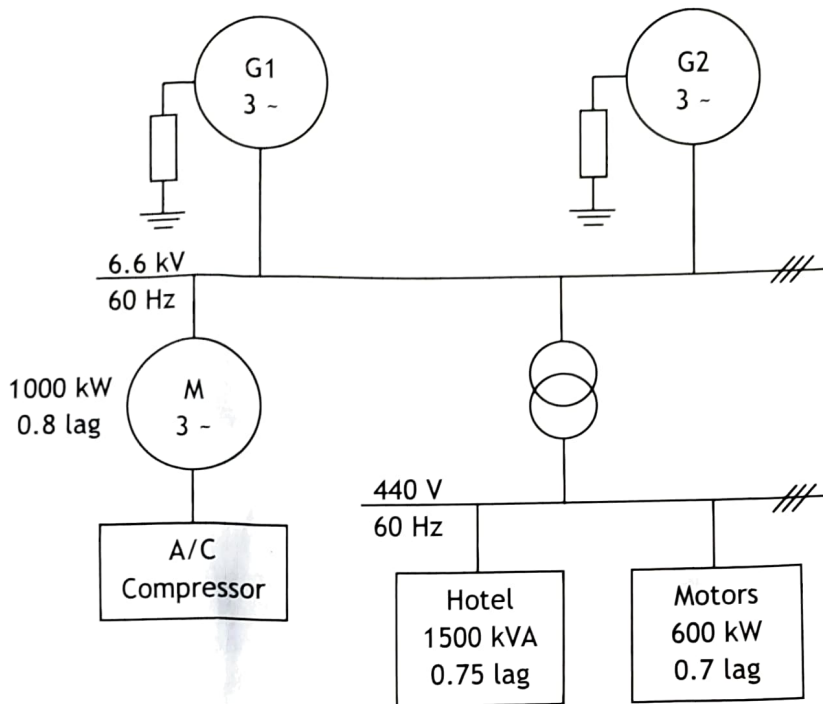

Fig Q5
- (a) explain why the rotor power factor is very low at start; (2)
- (b) explain why the rotor core losses are negligible when the motor is running; (2)
- synchronous speed. (5)
- (d) explain, with the aid of a labelled sketch, how a shaped, deep-bar rotor design increases starting torque; (6)
- (e) state ONE additional advantage of a shaped, deep-bar rotor. (1)
- 5. Fig Q5 shows ONE section of a high voltage distribution system.